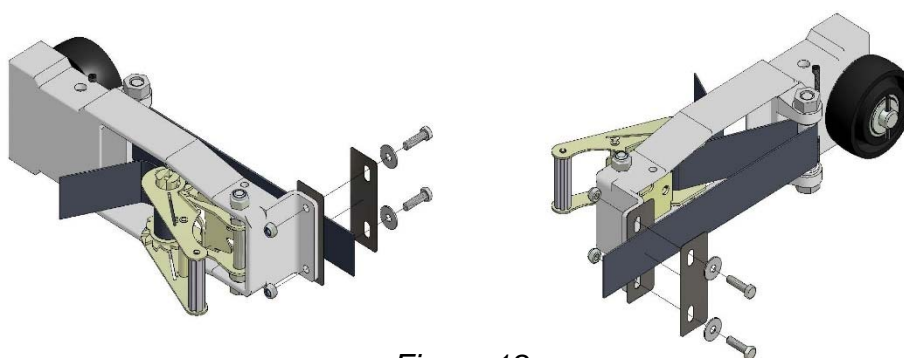

Figure 18
5.6 Bolt each Trolley back to the screen as shown in Figure 18 (image has fabric removed for clarity) using the M8 x 30 Bolts supplied. To allow the Bolt to pass through the Panel cut a slot 15mm to 20mm long in the Fabric. Note the webbing strap is placed between the two PVC Pads.